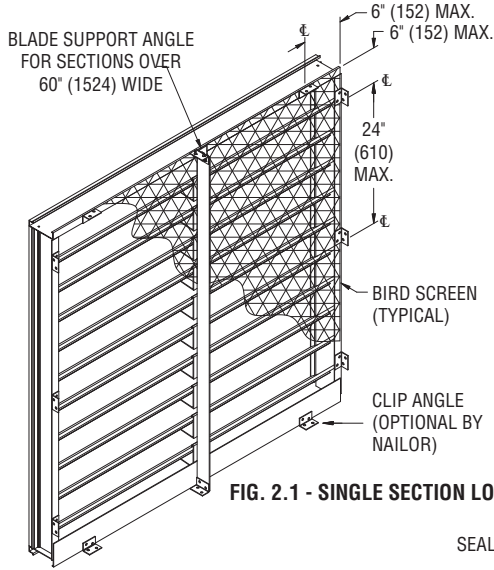

FIG. 2.1 - SINGLE SECTION LOUVER
3. Locate and anchor clip angles 1.5" x 1.5" x .125" thick x 2" long (38 x 38 x 3 x 51) as required to establish proper louver depth and position. See Fig. 2.1 for required spacing for stationary and operable louvers. (Clip angles are by others or optional by Nailor).